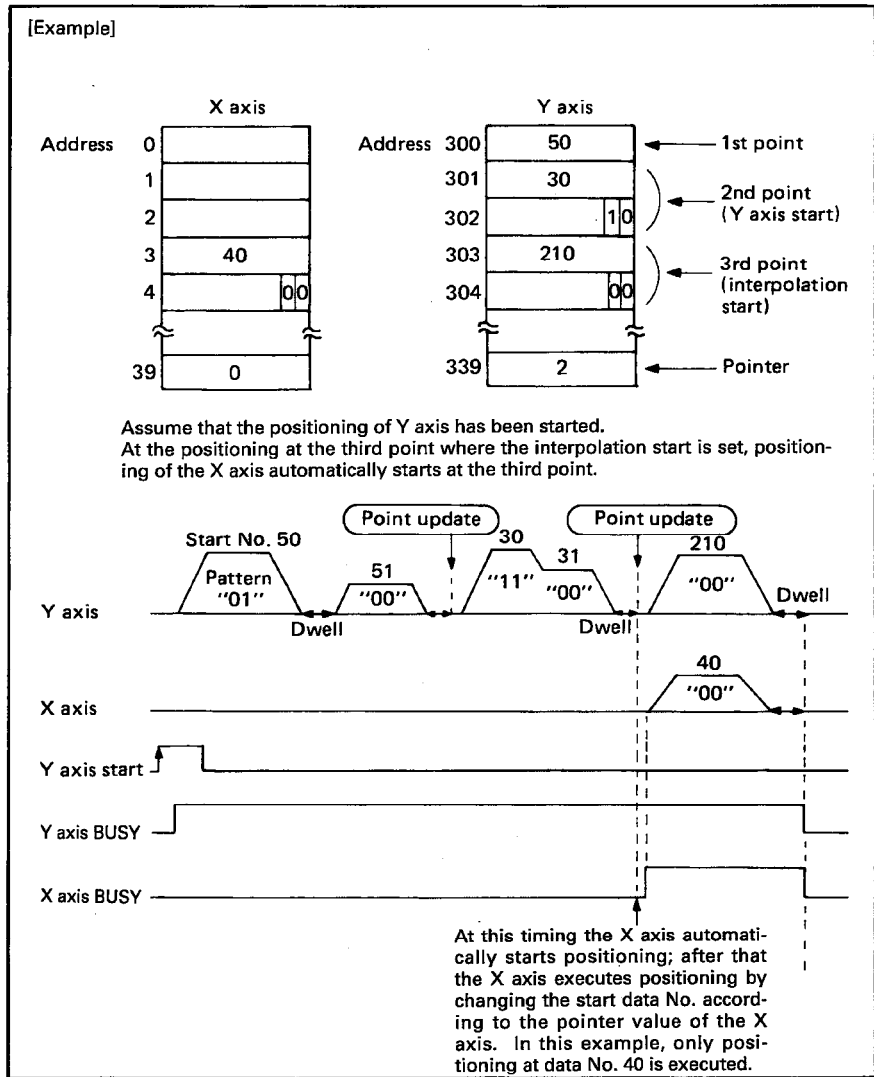

Fig. 3.33 Start Data Example 3
- 3) If the interpolation start (00) or both-axis start (11) is set for the start axis of either of the two axes, the mating axis automatically starts positioning using the start data No. set at the location of the same point when the mating axis is not BUSY (See Fig. 3.33.).